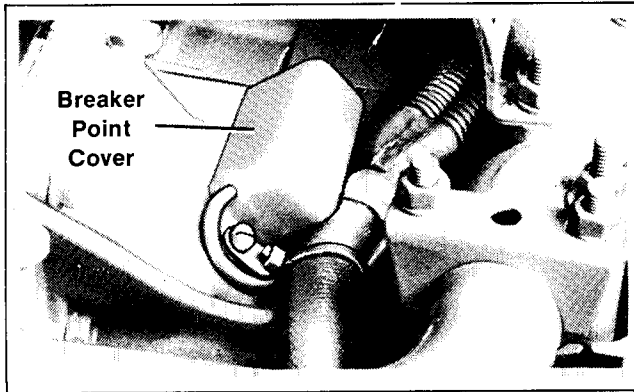

Figure 3-2. Breaker Point Cover
2. Remove the breaker point cover. See Figure 3-2.